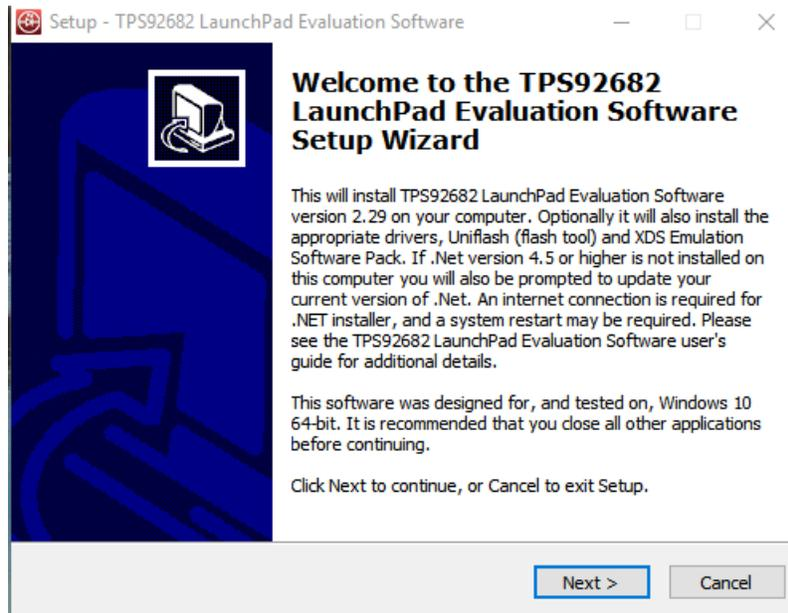

Figure 6-1. Setup Screen 1
6. After running the *TPS92682 LaunchPad Evaluation Software Installer.exe*, the evaluation software window appears as shown in Figure 6-1.